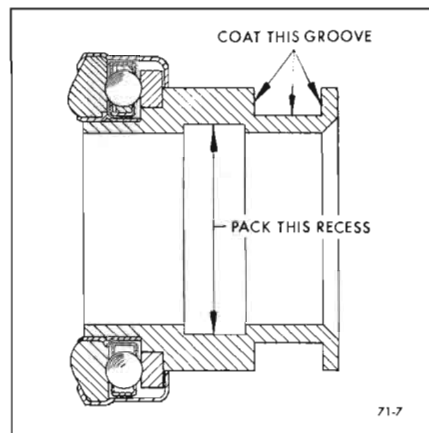

Figure 71-7—Throw-out Bearing Lubrication
3. Fill groove in throw-out bearing with wheel bearing lubricant. See Figure 71-7. Make sure transmission front bearing retainer is clean and apply a light coat of wheel bearing lubricant. Slide throw-out bearing over transmission retainer several times. Remove throw-out bearing and wipe off all excess lubricant pushed up by hub of bearing.
6. Lubricate the recess on the inside of the throw-out bearing collar. See Figure 71-7.